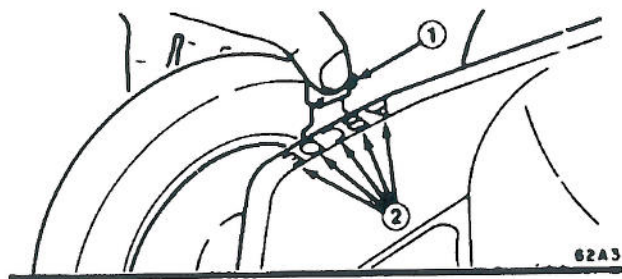

Figure 6
Height-of-cut is adjustable from approximately 1 to 3 inches (25 mm to 76 mm), in 1/2 (12.7 mm) increments. Letters cast into the housing represent each graduated increment (Fig. 6).
2. Place thumb against height-of-cut adjuster and fingers on outside of wheel (Fig. 6).